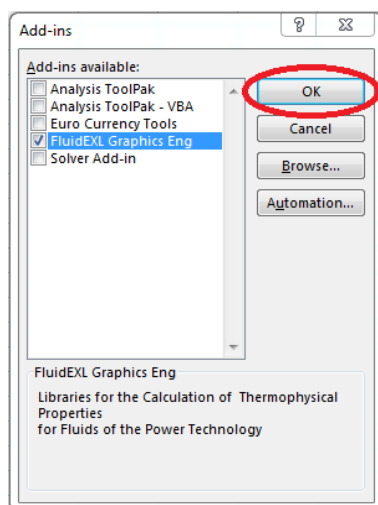

Figure 2.6: Dialog window "Add-Ins"
- Now, "FluidEXL Graphics Eng" will be shown in your list of Add-Ins; see Figure 2.6.